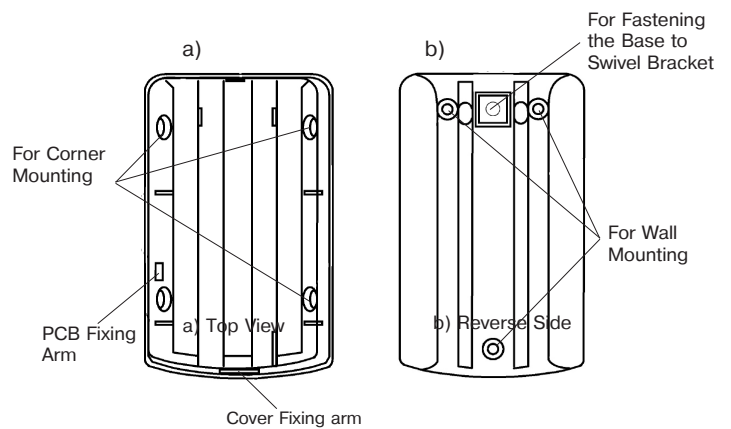

Figure 2 – Base
- Unfasten the latch at the underside of the detector case by means of screwdriver and remove the detector cover (Figure 2).
- Drill the holes in the base of the detector (Figure 2) for wires installation and for the detector fastening.